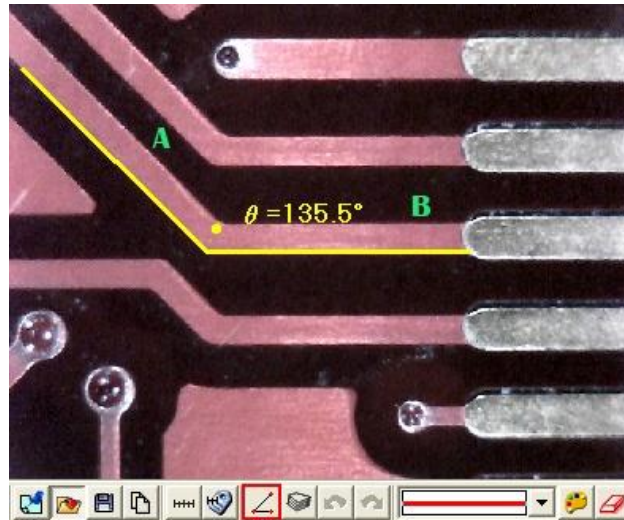

Fig 5-70 3 Points Angle
- (1) 3 Points Angle: Measure the angle on the object and use . In Fig. 5-70, it can see an angle on the object, draw a line and stop at the corner of angle, and then draw the other line from the angle; the angle can be automatically calculated. A dot shows the measured angle, it is 135.5° .